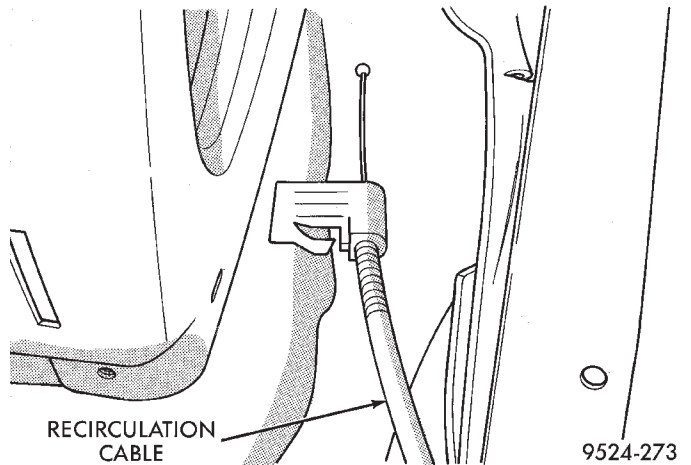

Fig. 69 Disconnect Recirculation Cable
- (9) Remove right under panel silencer/duct.
- (10) Disconnect cable flag at right of recirculation housing (Fig. 69).
- (11) Remove cable core end from recirculation actuator lever.